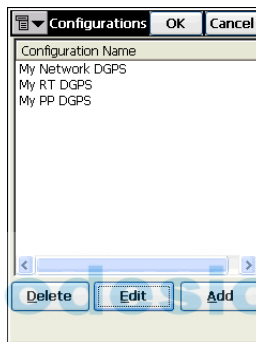

Figure 2-5. Select a Configuration
2. Tap the **Browse (...)** button on the *Surv Config* screen. The *Configurations* screen displays (Figure 2-5).
3. Select a current configuration and press **Edit** or press **Add** to create a new configuration (Figure 2-5).